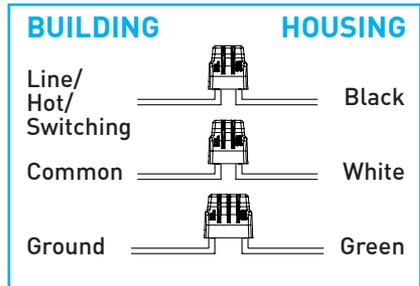

Fig.10
**Quick connectors** provided for line / mains voltage connection: black (hot), white (common) and green (ground) (Fig.10).
Feed structured building wires through knockout, secure to corresponding connector (Fig.10) and tighten strain relief.